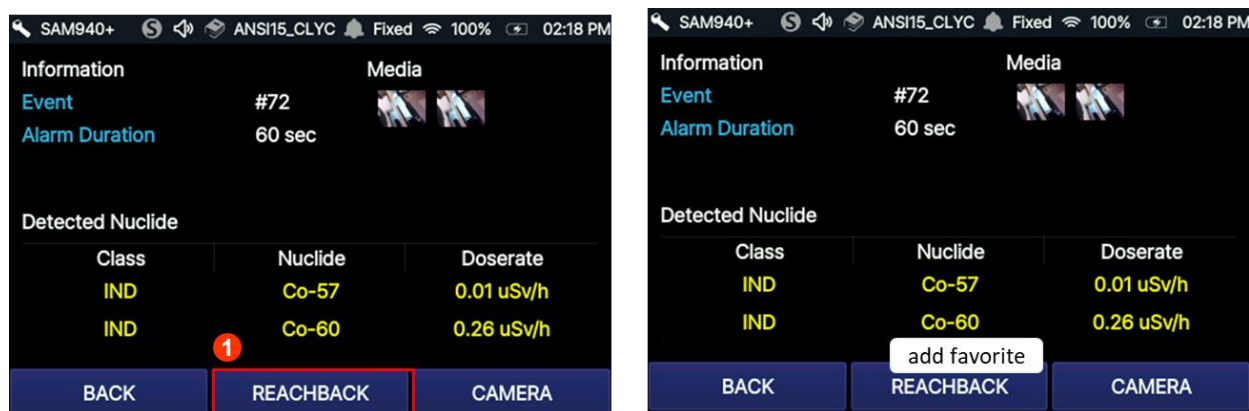

Figure 5.10.1. Add favorite example
1. At the end of Manual ID, the ID report screen is showed up as shown in figure 5.10.1.
The SAM 940+ felt in “sleep mode” automatically when it is not in use for certain time (setup sleep mode time is defined in section 7.6). The sleep mode LED shown in figure 5.10.1. is turned on (yellow LED). It wakes up by pressing any functions keys.